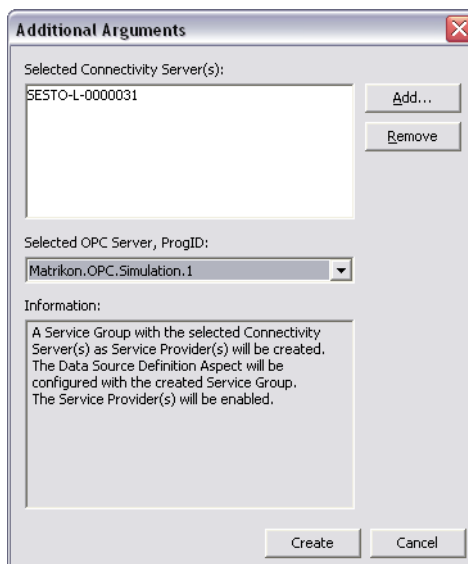

Figure 317. Connection of an OPC Server in Control Structure
2. Follow the wizard to select Connectivity Server and OPC Server. See Figure 317.
The value can only be changed if the Service Group field in the Connectivity tab is empty. Configuration is normally set from the wizard shown in Figure 317, or on an object type.